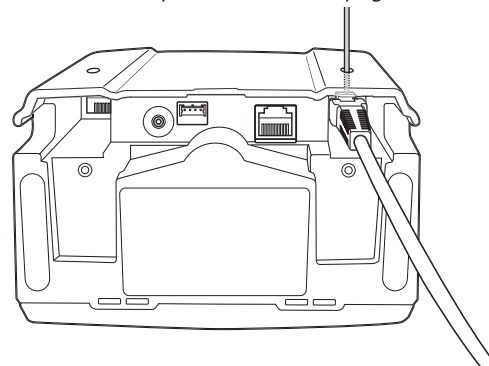

Figure 1-5 Unplugging the Cable Through the Cable Release Hole
1. Unplug the installed cable's modular connector by depressing the connector clip and gently pulling back. The two small holes on the back of the scanner case provide access to the connector clips. (See Figure 1-5.)